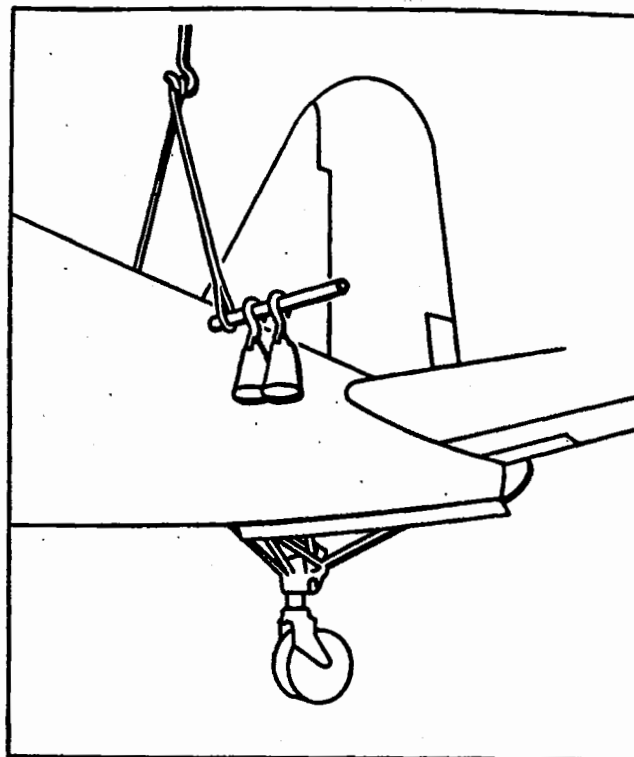

Figure 3-6. Hoisting Tail.
3-20. PROCEDURE. (Refer to figure 3-6.)
c. Attach the ends of a rope or cable to the lift bar as shown in figure 3-6, and raise tail.